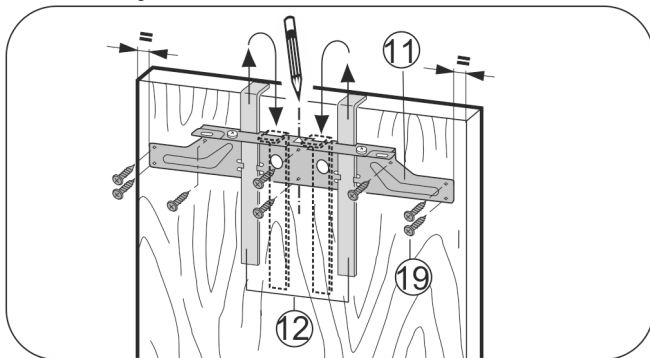

Fig. 29
- Hang the crosspiece Fig. 29 (11) on the inside of the unit door using the fitting aids Fig. 29 (12). With a 600 mm (1.97 ft) wide recess:
- Align the crosspiece Fig. 29 (11) to the middle of the door.
- Secure the crosspiece Fig. 29 (11) with at least 6 screws Fig. 29 (19).
- Secure the crosspiece Fig. 29 (11) with 4 screws Fig. 29 (19) at the edge.
- Lift up fitting aids Fig. 29 (12), turn round and insert into the adjacent openings.